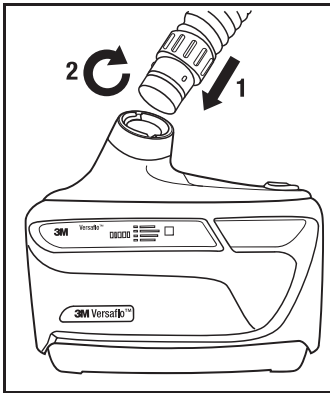

Fig. 11 Installing breathing tube
1. Insert the end of the breathing tube with the bayonet fitting (two small prongs) into the parallel slots in the air outlet of the motor/blower (Fig. 11).